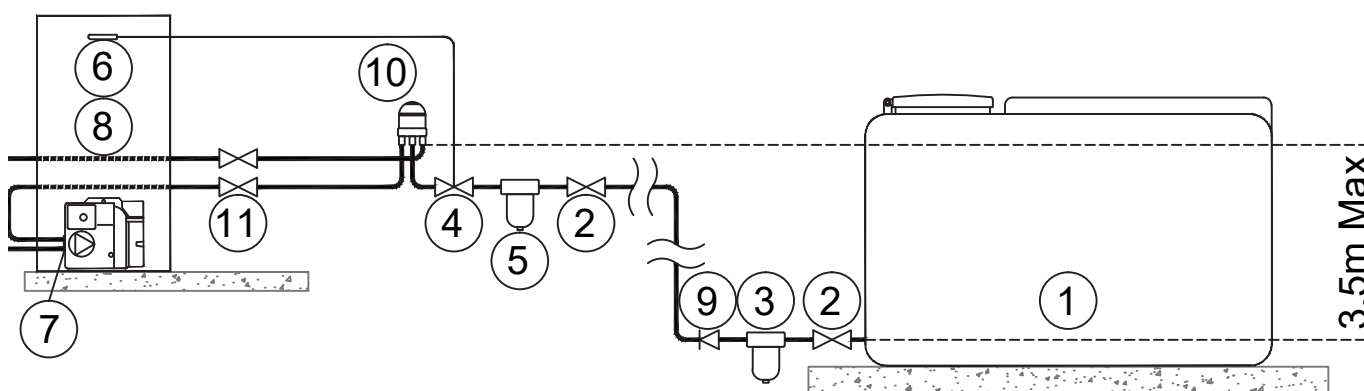

Figure 3-3: De-aeration device system
3.1.5 SINGLE PIPE (SUCTION) SYSTEM WITH DEAERATOR - (REFER TO FIGURE 3-3)
The de-aerator must be mounted vertically at the same level as (or above) the burner oil pump. Refer to Figure 3-3.